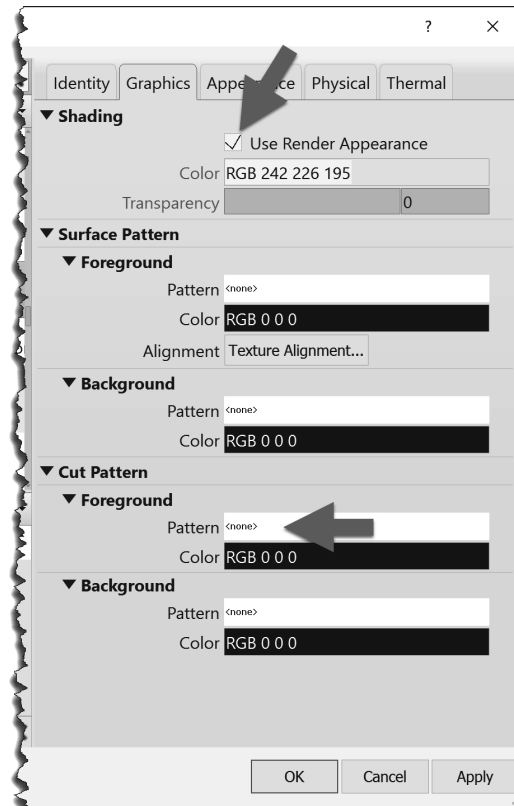

FIGURE 4-3.18
55. Make sure the **Use Render Appearance** under *Shading* is checked (Figure 4-3.18).
56. Set the *Foreground Cut Pattern* to **None** (Figure 4-3.18).